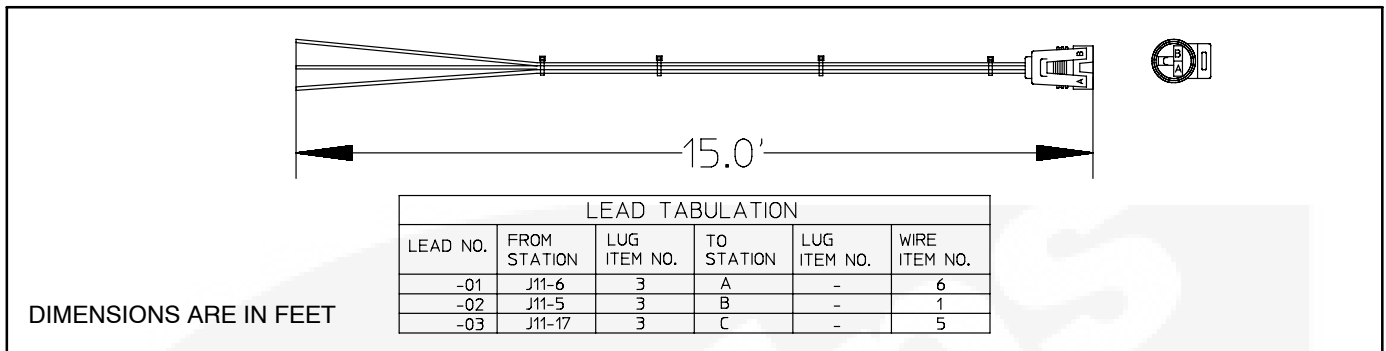

FIGURE 3-21. ACTIVE LUBE OIL PRESSURE SENSOR HARNESS
- Connect the color-coded control harness wires marked P11-5, P11-6, and P11-17 to the oil pressure harness wires marked J11-5, J11-6, and J11-17 (see Figure 3-21).